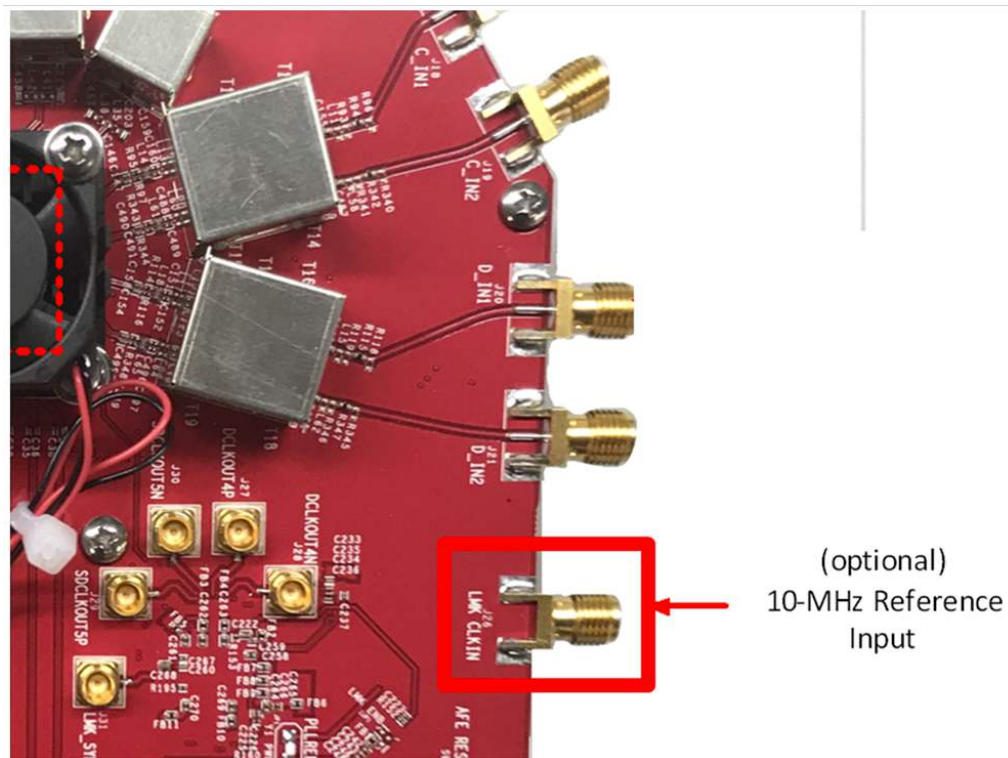

Figure 8. Optional Reference Clock Source Input Location
- Place the 10-MHz reference out signal from the signal generator that is providing the DAC clock, and connect the signal to the LMK CLKIN SMA connector. Figure 8 shows this connector highlighted by a red box.